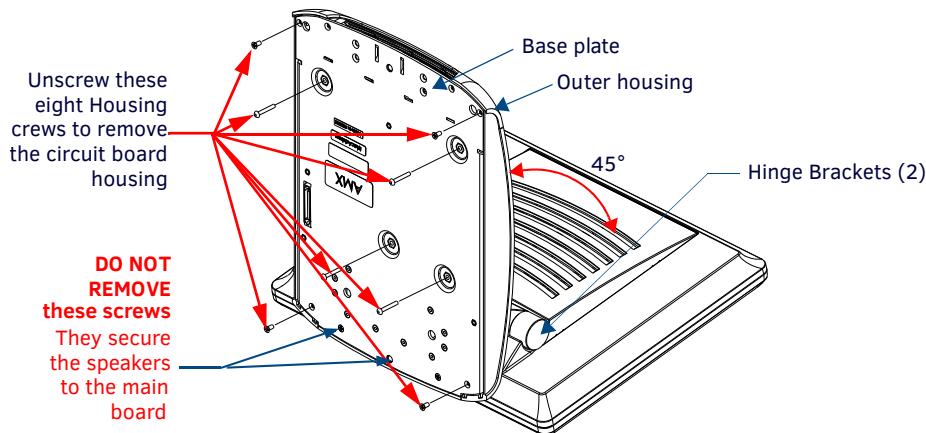

FIG. 15 Location of the attachment screws on an NXT panel
1. Carefully detach all connectors from the rear of the touch panel and then gently place the touch panel LCD face-down onto a soft cloth to expose the under-side of the base (FIG. 15). This step helps prevent scratching of the LCD.
6. Insert and secure the eight Housing Screws (using a grounded Phillips-head screwdriver) into their respective locations (FIG. 15).